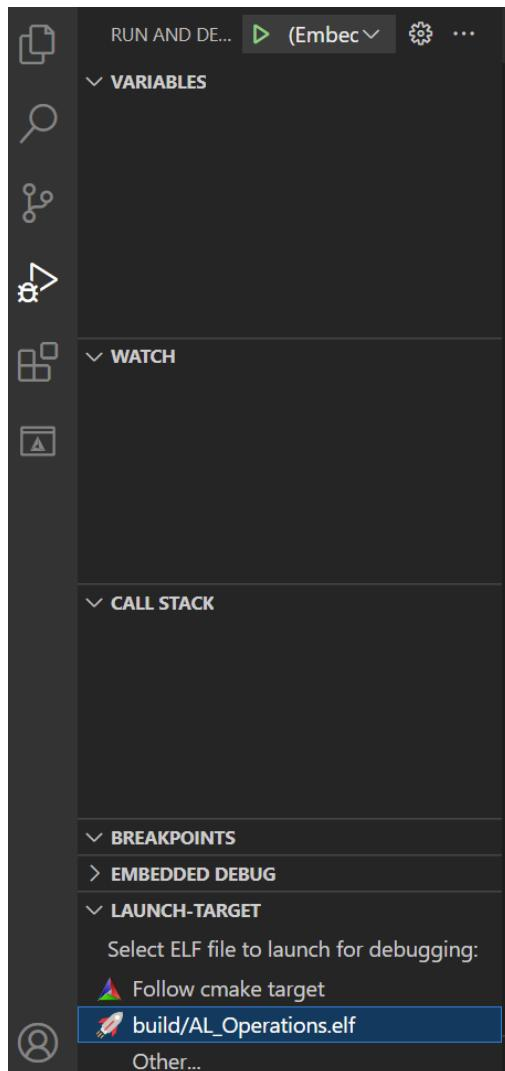

Figure 37. Select the .elf file
- Click on the “Run and Debug” button . Go to the LAUNCH-SELECT section and select the .elf file which you just built (or select “follow cmake target”). See Figure 37.